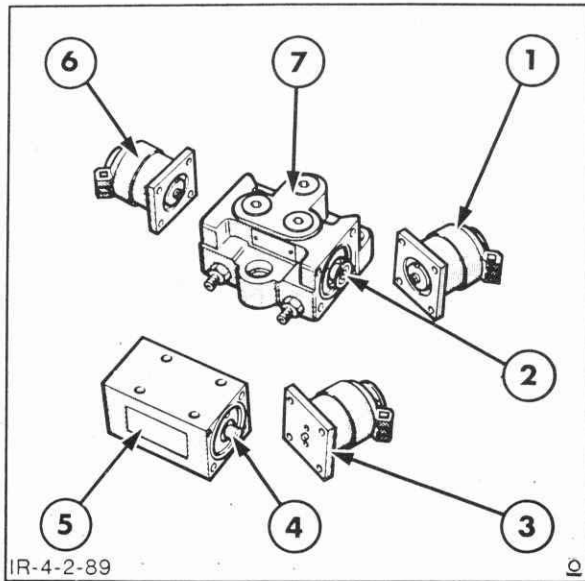

Figure 4-184
1. Remove the lock-up valve and control valve solenoid retaining bolts and disassemble the solenoid assemblies from the valve bodies, Figure 4-184.